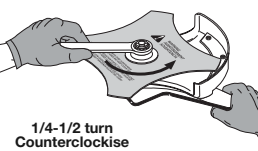

Fig. 24
- Without a torque wrench, use a 13 mm closed-end or socket wrench, turning the nut until the blade retainer is snug against the shaft bushing. Make sure that the blade is installed correctly, then rotate the nut an additional 1/4 to 1/2 turn counterclockwise (Fig. 24).